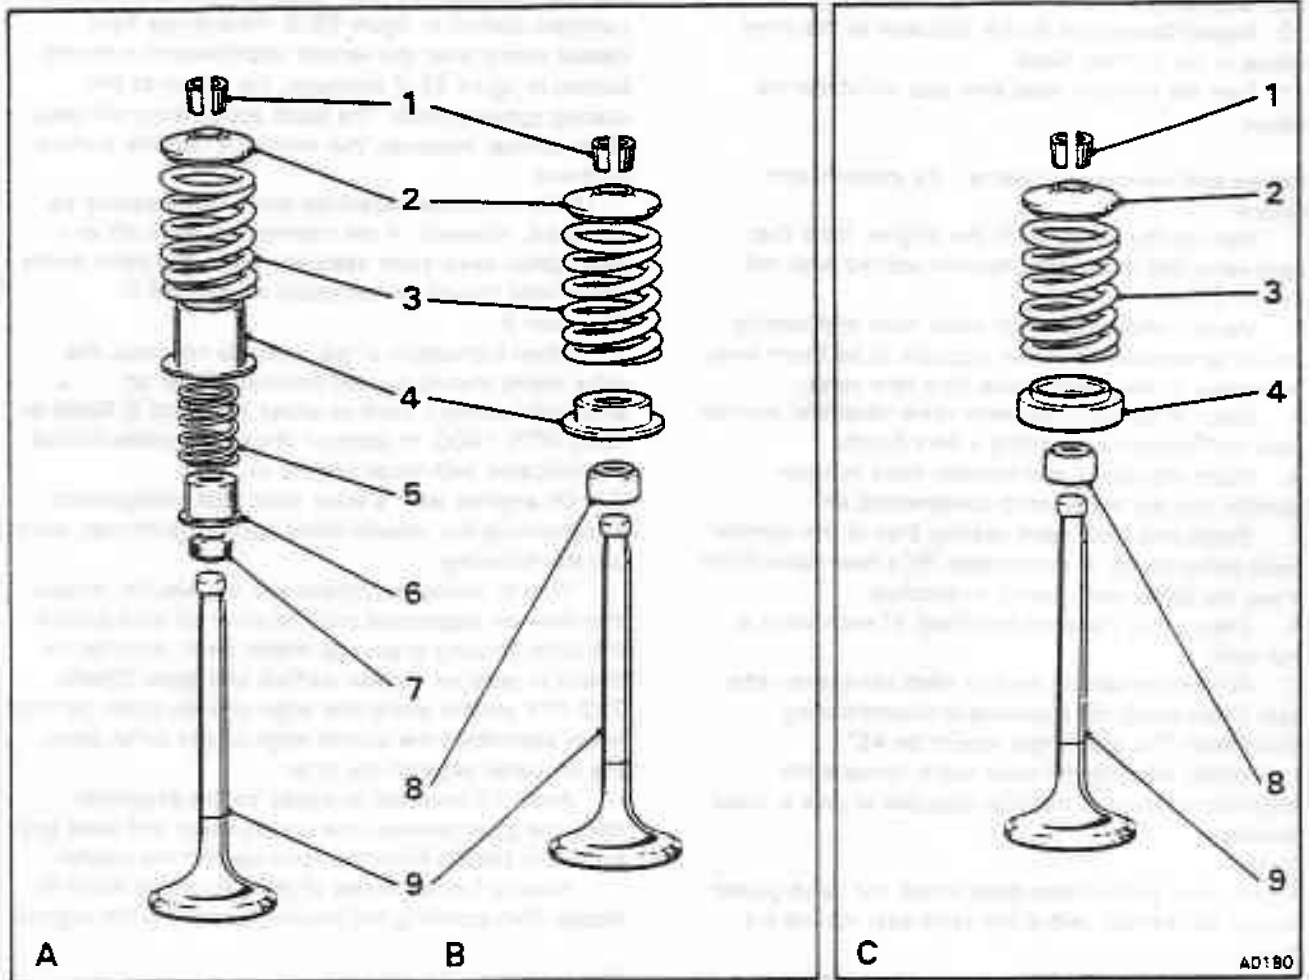

Fig. E8-3 Valve and valve spring assemblies
9. Dismantle the assembly as follows (refer to fig. E8-3).
3. On cars produced prior to the vehicle identification numbers quoted in figure E8-3, note that the inlet valve spring is slightly shorter than the exhaust valve spring.
5. On engines fitted with a 'rubber' type of valve stem seal, the valve stems are specially treated to aid running-in (refer to the start of the section). These valves with blue coloured stems were usually fitted to fuel injection engines prior to the vehicle identification numbers quoted in figure E8-3. All engines have treated stems after the vehicle identification numbers quoted in figure E8-3 although, the colour of this coating appears black. The black appearance will wear off in service, however, this will not affect the surface hardness.